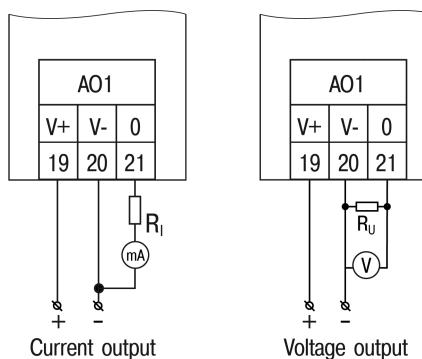

Fig. B.4 Output calibration
- Connect the measuring device and the voltage source to the output depending on the configured output signal (Fig. B.4).